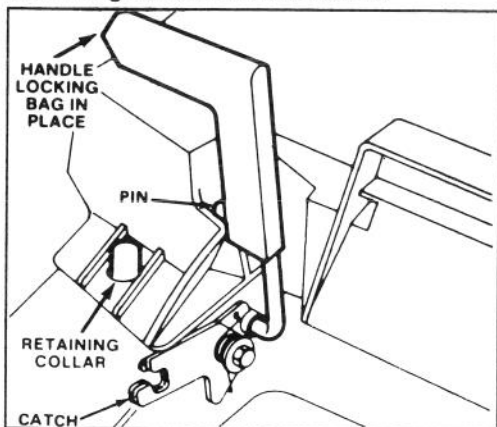

Figure 9
3. INSTALLING BAG — Slide hole in bag frame onto retaining post on housing (Fig. 9) and set rear of bag frame onto lower handle.
4. Pull chute door handle forward until pin clears catch and move handle rearward until pin locks in bag notch (Fig. 9). Chute door in mower housing is now open. It may be necessary to push down on top right of bag door to release handle locking pin from catch.